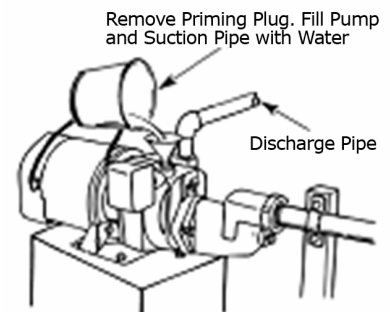

Figure 4
3. Gradually fill the pump and suction line with clean water until it starts flowing out from the priming port. Use funnel when possible to prevent water from contacting any electrical components (See Fig. 4).